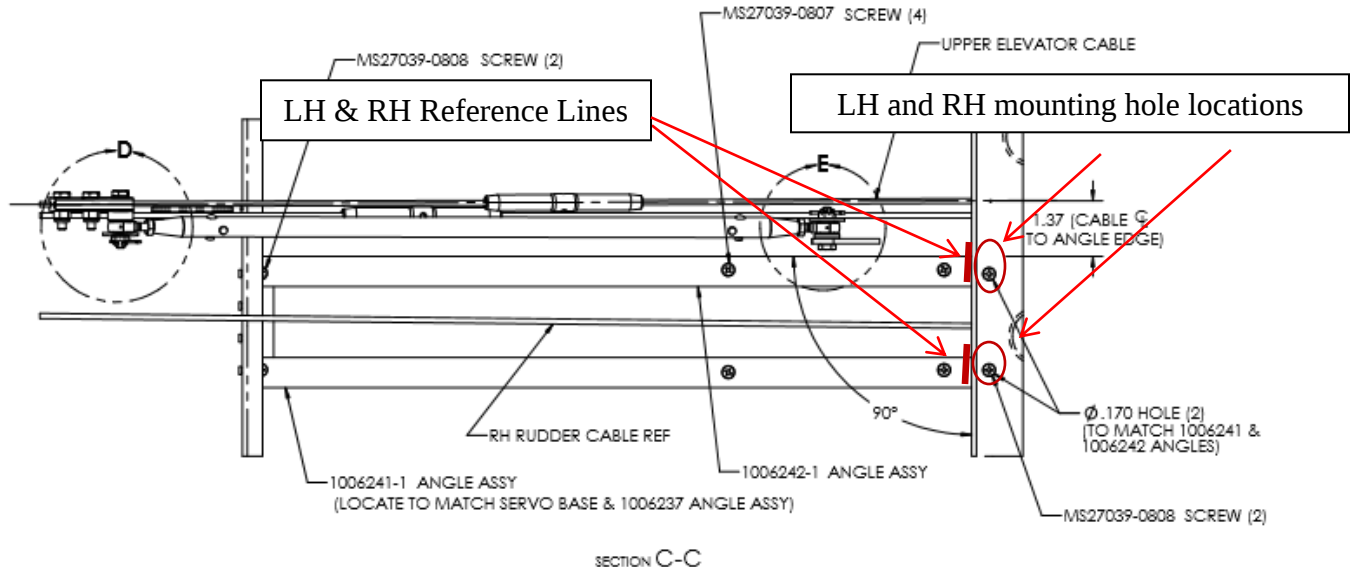

FIGURE 4-10 LH AND RH ANGLE REFERENCES
33. Using the edge of the accessory tray and using a colored marker, draw a reference line across the LH and RH angles as depicted in Figure 4-10.
35. Using the accessory tray edge as a guide measure the distance taken in Step 35 and mark the LH and RH angle hole locations as depicted in Figure 4-10.